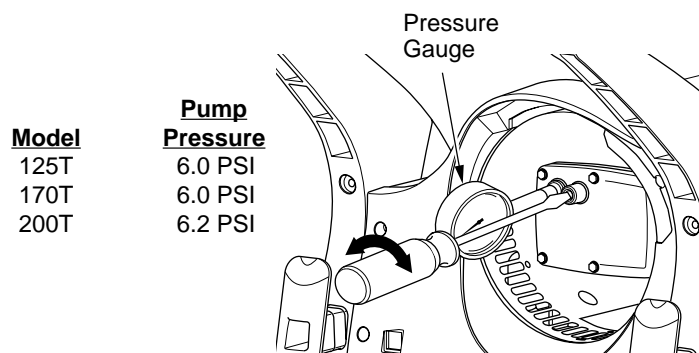

Figure 10 - Adjusting Pump Pressure
5. Adjust pressure. Turn relief valve to right to increase pressure. Turn relief valve to left to decrease pressure. See specifications below for correct pressure (see Figure 10).